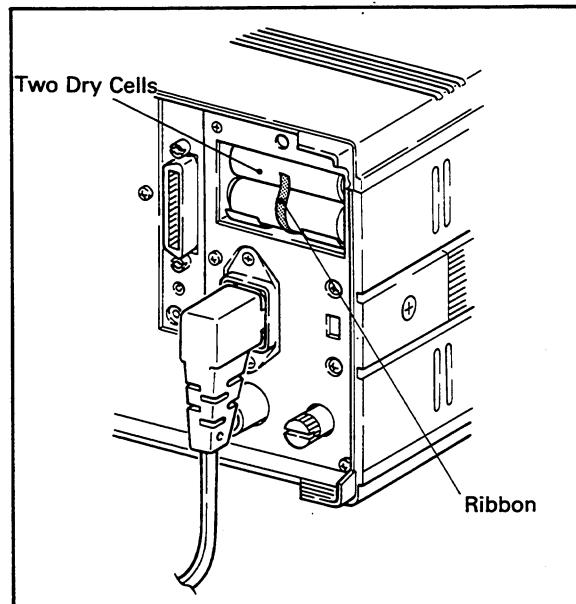

Figure 2-4.
- 4) As depicted in Figure 2-4, fold back the excess of ribbon upward, put the cover in place and push the knob to lock.